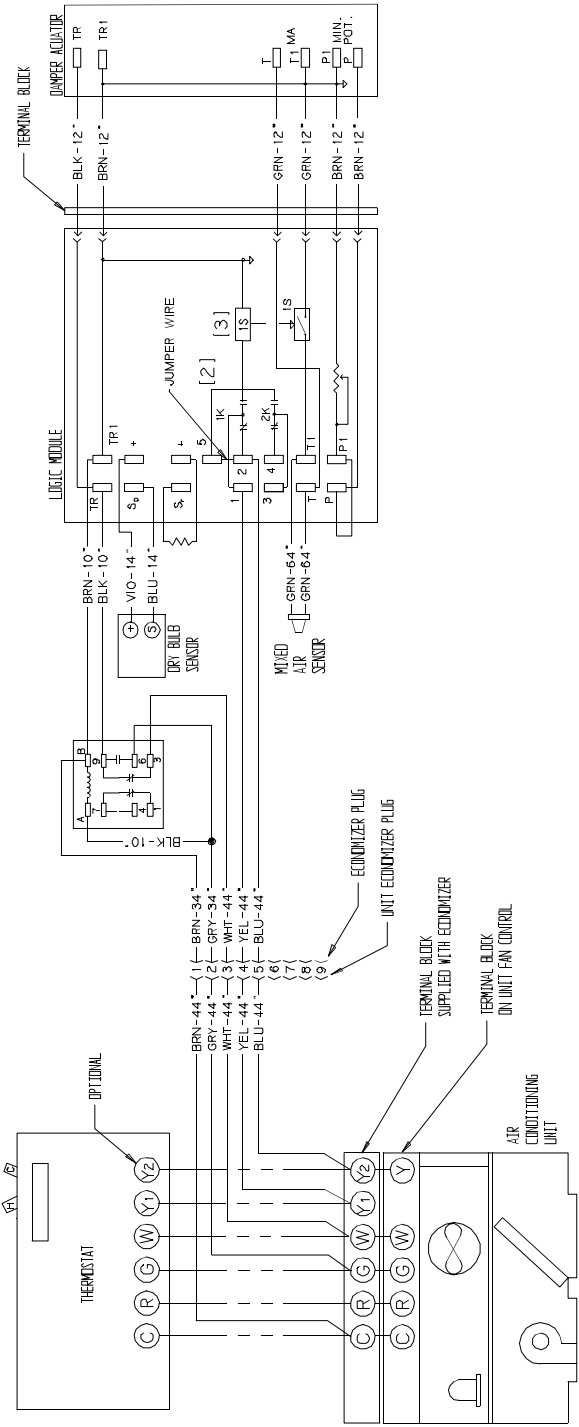

FIGURE 12 - WIRING DIAGRAM FOR COOLING AND GAS/ELECTRIC UNITS
10. Complete all wiring per the wiring diagram (See FIG. 12). Relay kit 2AC04700724 must be installed on all heat pump units.
10. Complete all wiring per the wiring diagram (See FIG. 12).